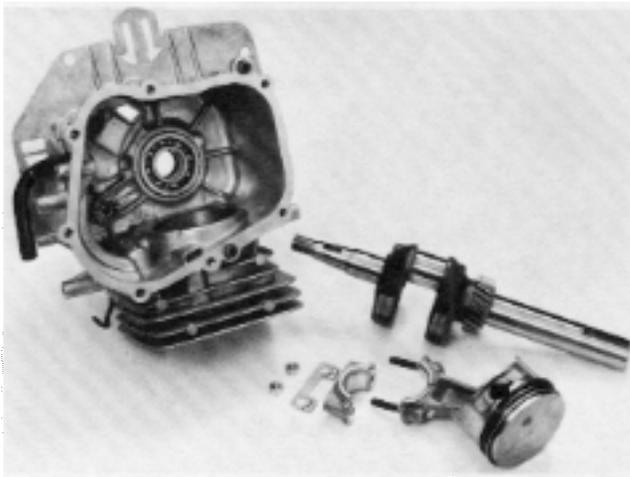

Figure 4-32
2. The piston and crankshaft may now be removed from the cylinder. See Fig. 4-32.